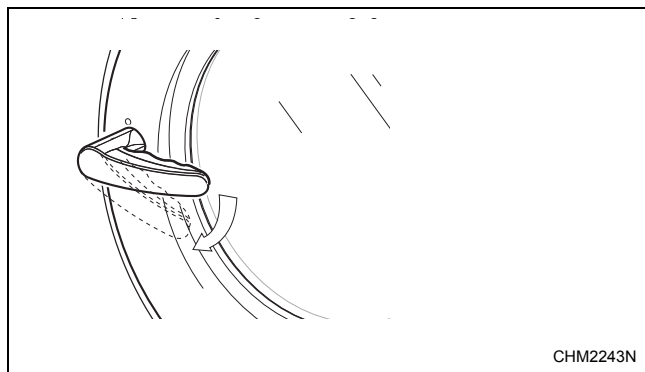

Figure 54
2. Turn handle clockwise to open. Refer to *Figure 54*.